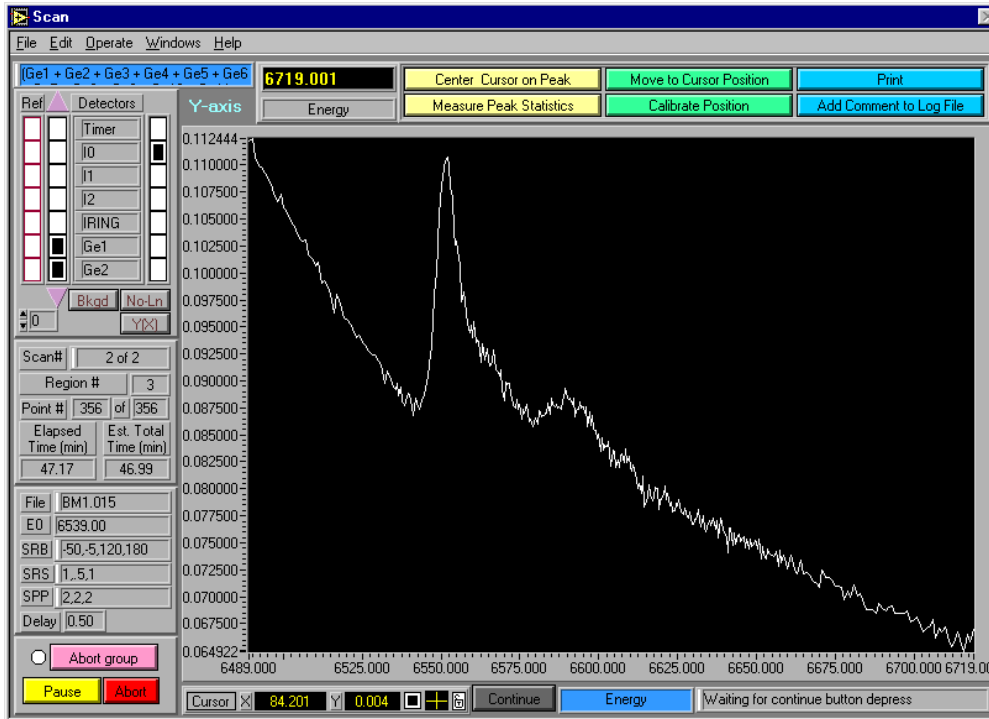

Fig. 16.
7. The screen shown in Fig.16 will appear and the scan will start.